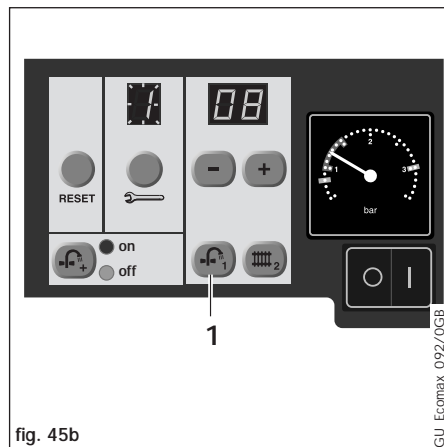

fig. 45b
- Press the domestic hot water temperature button  (1, fig. 45b).